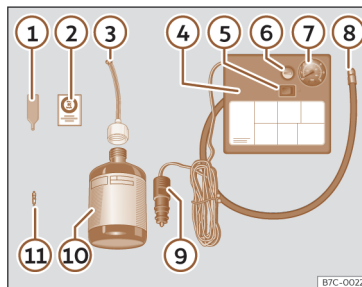

Fig. 247 Standard display: contents of the tyre mobility system.
The tyre mobility system is located underneath the floor covering in the luggage compartment. Includes the following components >>> **Fig. 247:**
- Unscrew the tyre valve cap and insert. Use the device >>> **Fig. 247** ① to remove the valve cap. Place it on a clean surface.
- Shake the tyre sealant bottle vigorously >>> **Fig. 247** ⑩.
- Screw the tyre inflation hose >>> **Fig. 247** ③ into the tyre sealant bottle. The bottle's seal will break automatically.
- Remove the filler cap >>> **Fig. 247 ③** and screw the open end of the tube into the tyre valve.
- Replace the valve insert with the device >>> **Fig. 247 ①** onto the tyre valve.
- Screw the tyre inflation tube of the compressor >>> **Fig. 247 ⑧** onto the tyre valve.
- Check that the air evacuation screw is closed >>> **Fig. 247 ⑥**.
- Attach the connector >>> **Fig. 247 ⑨** to the vehicle's 12 volt power outlet >>> page 261.
- Switch on the air compressor with the ON/OFF switch >>> **Fig. 247 ⑤**.
- Attach the sticker >>> **Fig. 247 ②** to the instrument cluster display, within the driver's field of vision.
Screw in the inflator tube >>> **Fig. 247 ⑧** again and check the pressure on the gauge **⑦**.